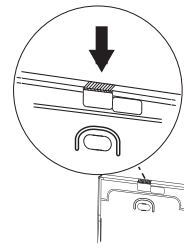

Fig. 3-3-4
2. Because the simplified remote controller wiring exits the back case (thin part in upper central area), use a nipper or the like to cut out the part to fit the thickness of the simplified remote controller wiring. (See Fig. 3-3-4)